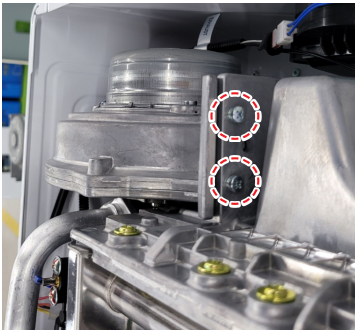

Figure 4
4. Remove the two mounting screws from the fan assembly as shown in Figure 4 below.